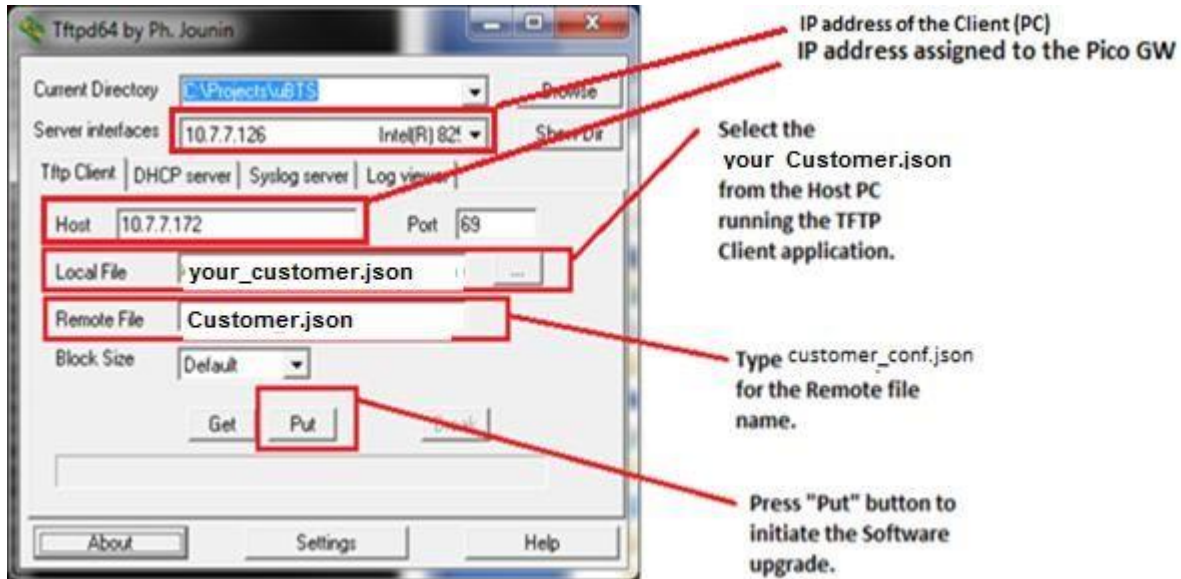

Figure 3 Tftp client settings for updating Customer.json
1. The instructions are similar to steps in section 3. See Figure 3 for the settings required on the TFTP client tab to upgrade the Customer.json.